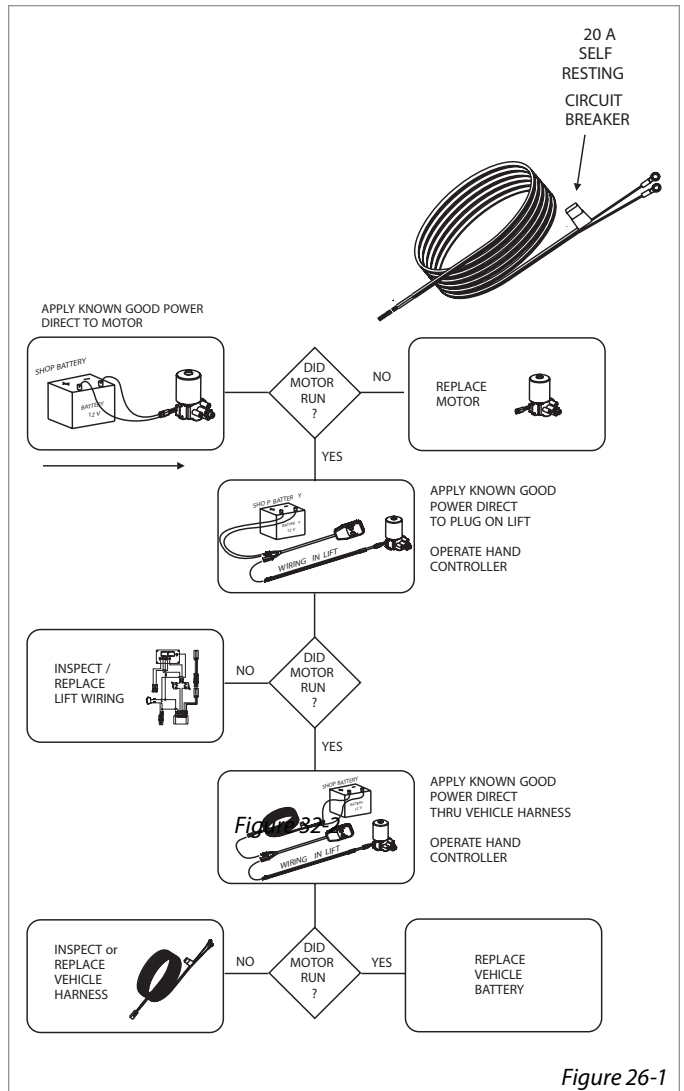

Figure 26-1
- Verify the circuit breaker. The circuit breaker is located about 6" from the connections to the vehicle's battery. The breaker will self-reset if overloaded; however, verify (with Ohm meter or test light) that the breaker is functioning. Or replace it with a new/known-good circuit breaker and perform the tests shown in *Figure 26-1*.